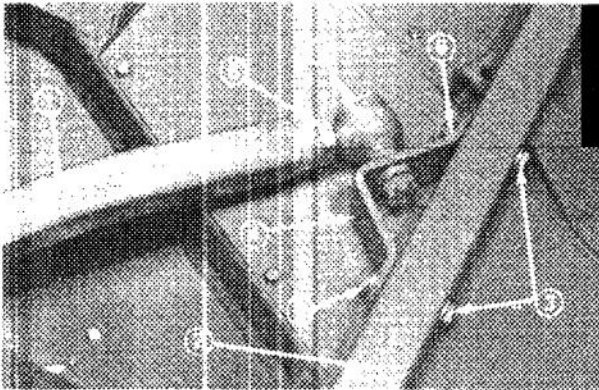

Figure 9
5. Secure ball joint mount to caster arm (Fig. 9) with two capscrews w/flatwashers, one flatwasher (15/32 I.D. x 59/64 in. O.D.), lockwashers and nuts (7/16 – 14). Head of capscrew and the large flatwasher must be on outside of caster arm.
6. Tighten large jam nut against front of right push arm (Fig. 9). When tightening jam nut, hold ball joint straight to permit proper oscillation during raising and lowering of the cutting unit.